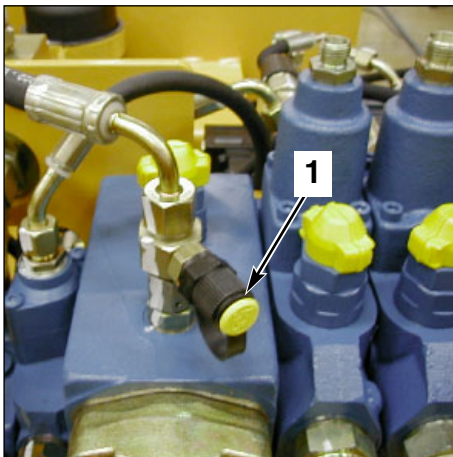

Fig. 2 SX18 valve block
- 3- Measure the pressure (1 fig. 2) using the manometer.